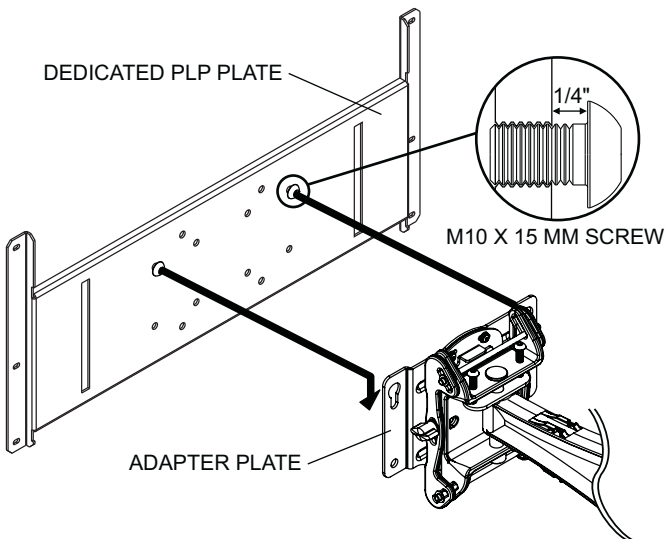

fig. 4.1
- 4** For Dedicated PLP Plate (not evaluated by UL): Refer to PLP model instruction sheet for attachment of dedicated PLP plate to screen. Install two M10 x 15 mm screws (provided with dedicated PLP plate) into top two holes of dedicated PLP plate leaving 1/4" of exposed thread as shown in figure 4.1.